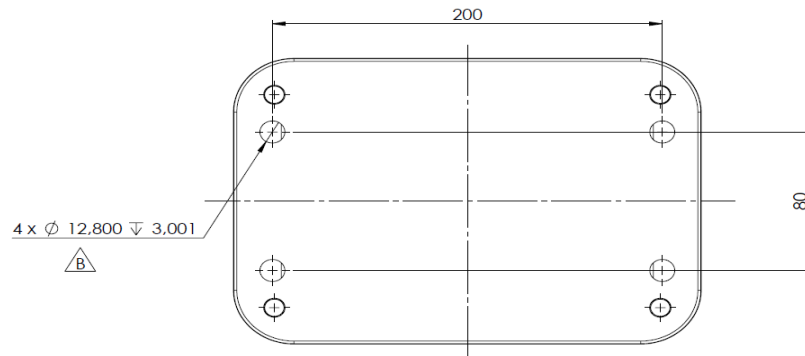

Figure 5. Mounting bracket dimensions.
10. As every wheelchair is unique there is not a general mounting bracket available. The dimensions in Figure 5, must be respected to mount the Electronics Control Unit. Use four M6 screws through the blind nuts to fixate the Electronics Control Unit.